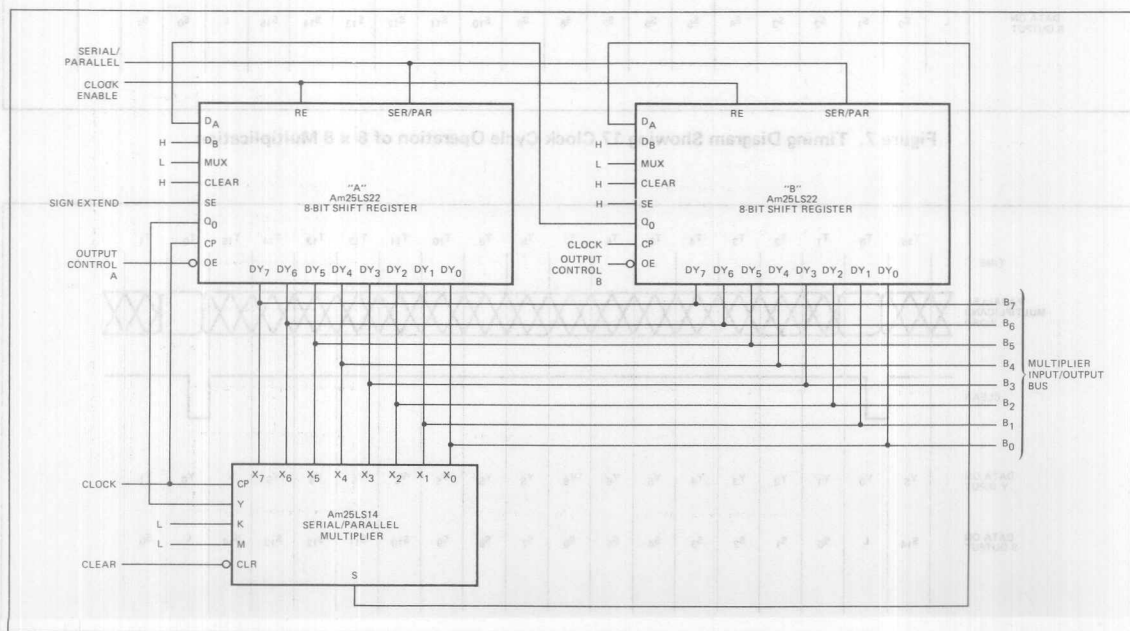

Figure 9. An 8-Bit by 8-Bit Multiplier with a Full 16-Bit Product Store. The Inputs and Outputs are Bus Organized on an 8-Bit Bus
A circuit which generates a 16-bit product from an 8-bit by 8-bit multiplication is depicted in Figure 9. This sub-system consists of one Am25LS14 serial/parallel multiplier and two Am25LS22 8-bit registers. This configuration accepts an 8-bit multiplicand and an 8-bit multiplier from an 8-bit data bus. It will return a 16-bit product (8-bit upper byte and 8-bit lower byte) using the same 8-bit bus.
The control signals required for this multiplier are shown in Figures 9 and 10. Notice that the clear input to the Am25LS14 and the Serial/Parallel (S/P) input to the Am25LS22 can be connected together with the appropriate don't cares eliminated. Other control signals to the Am25LS22 include the register enable (RE), sign extend (SE), and the three-state control (OE). These signals can be generated using a counter and combinatorial logic gates or a counter and small PROM.